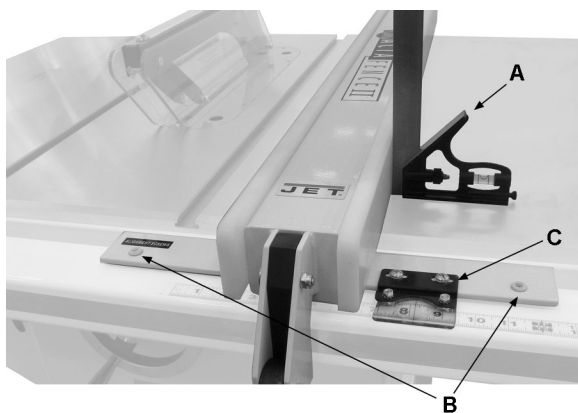

Figure 12
51. Place a square (A, Figure 12) on table next to fence. The fence should be 90° to the table.
52. If adjustment is necessary, unlock fence and turn one of two nylon adjustment screws (B, Figure 12) until fence is 90° to table.
58. Adjust cursor (C, Figure 12) to read the distance just measured, and tighten cursor assembly to fence.